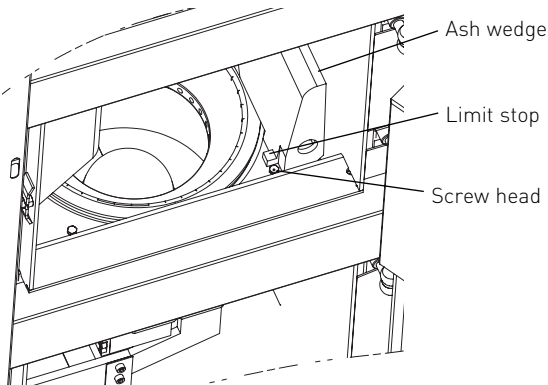

Fig. 68 Fit cone and ash wedge (with BioWIN XL 350 only) in / on burner pot.
- Fit the ash wedge (BioWIN XL 350 only) on the burner pot in the right-hand corner, making sure the limit stop is behind the screw head – Fig. 68.